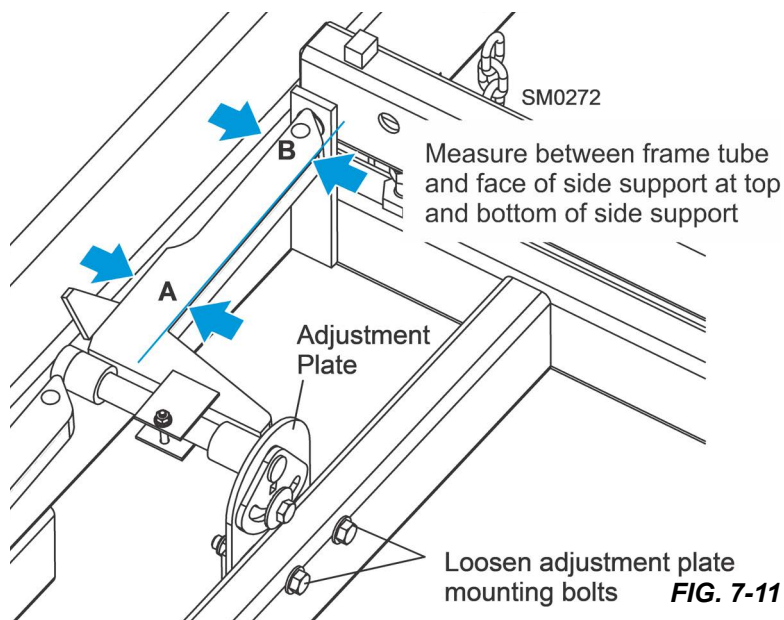

FIG. 7-11
5. Place square alignment tubes (Part No. S12831 - 2 required) across the bed rails. See FIG. 7-11.